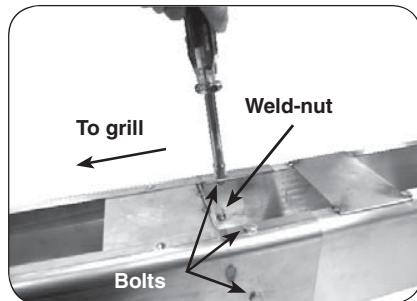

Fig. 14-2 Fasten extension to post
2. From outside the joined post and extension, insert one of the $1/4 \times 20\text{-}5/8$ bolts (supplied) into each of the five (5) bolt holes and tighten each using a $7/16$ " socket driver or wrench (see Fig. 14-2).